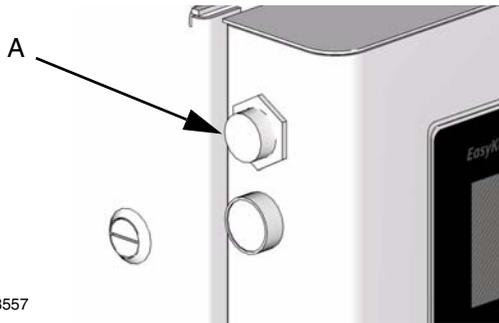

**FIG. 29** Network Selection
- **Local Network Connection** (most common). Patch cable from the local network plugs into the unit Web Interface connection. See FIG. 29 and FIG. 30, and page 66.
- **Direct Connection** to the unit crossover cable from the PC plugs into the unit Web Interface connection. See FIG. 29 and page 69.